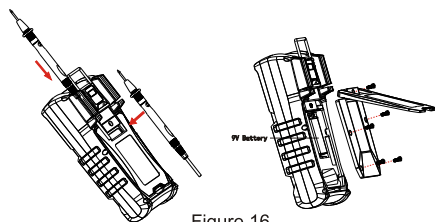

Figure 16
2.Battery replacement (Figure 16)